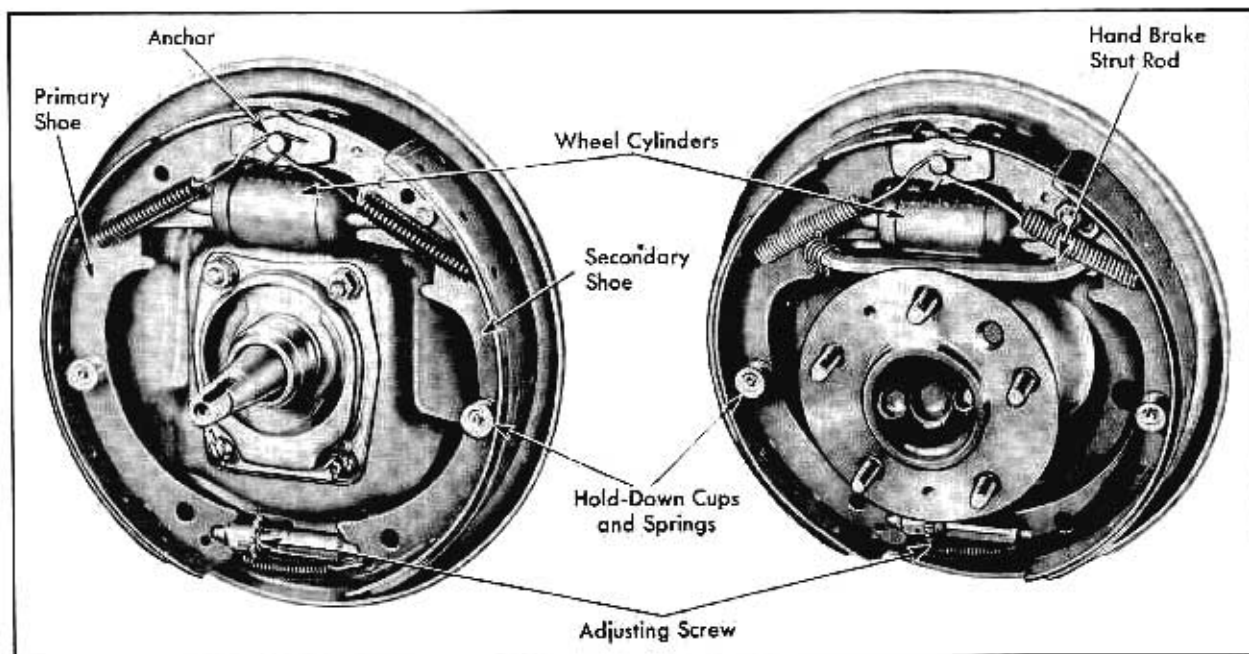

Fig. 9-8 Brake Mechanism at Front and Rear Wheels
4. Remove brake shoe hold-down cups and springs, Fig. 9-8.